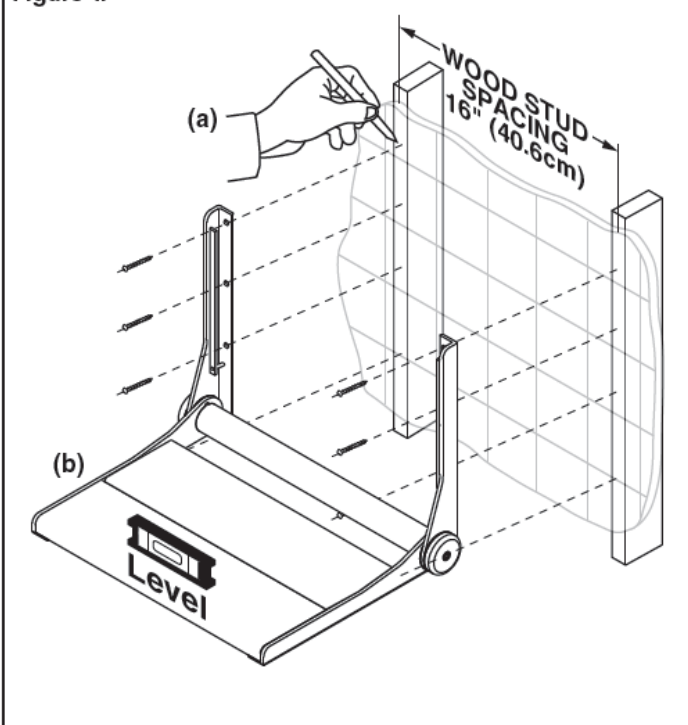

Figure 2.
A2. Notch the tile accurately with a center punch as shown in Figure 2. NOTE: A light tap is all that is required for punch to make notch.
3. Fabricate a support frame structure from suitable wood pieces as shown in Figure 2. Support frame width (D) should fit snugly within wall studs. Support frame height (E) should be from 24-32" (61-81cm) high or more, depending on material and stiffness of wall studs. Locate top cross member (F) to position in line with top hole on the wall bracket when seat is at install height (H). Lower cross member (G) should be spaced at C = 14.125" (37.465cm) center to center from top cross member (see Page 4 for dimensions of 2 center cross members). Use a generous quantity of wood screws and glue to hold the support frame structure together as shown. See alternative to support frame as shown in Figure 3.